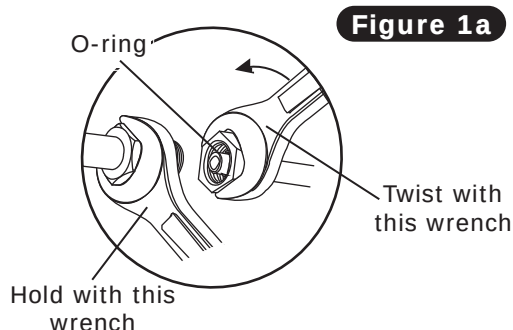

Figure 1a
1. Lubricate (2) #6 O-rings (See Figure 1a, below), and install the #6 drier/condenser hardline as shown in Figure 1, below.
2. Tighten fittings as shown in Figure 1a, below.
1. Lubricate a #6 and #8 O-ring (See Figure 1a, Page 6). Install the #6 drier/core hardline and the #8 condenser/compressor hardline as shown in Figure 1, below. Tighten fittings as shown in Figure 1a, Page 6.